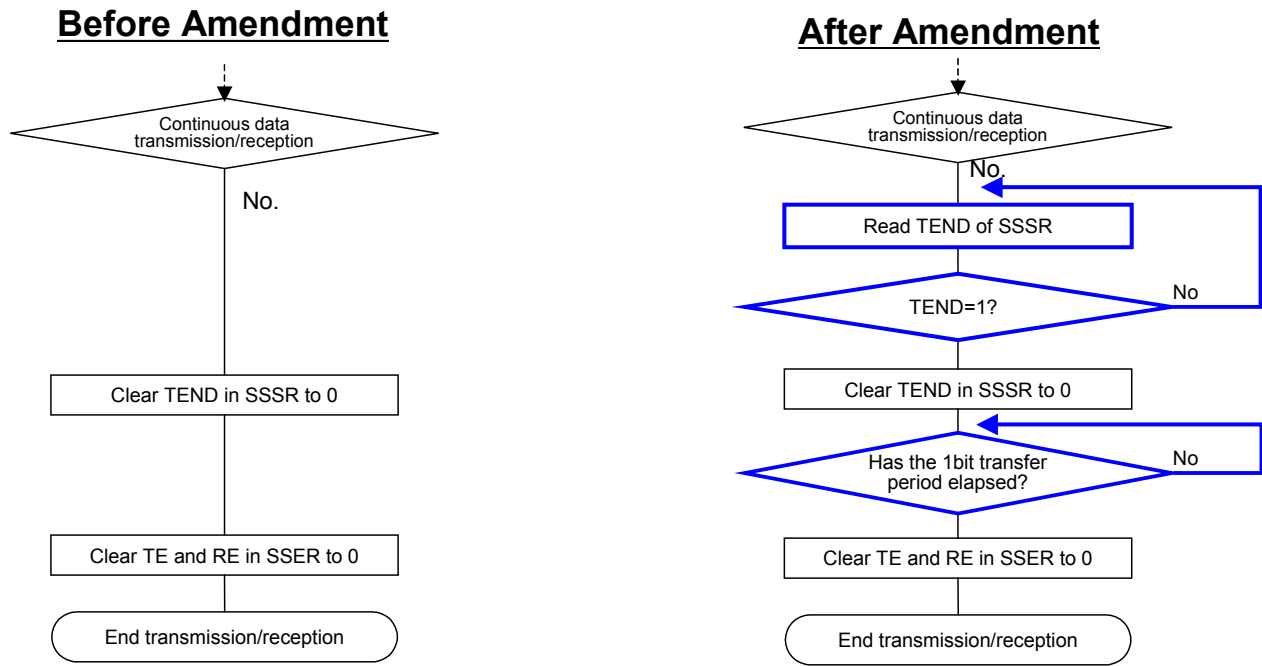

Figure 14.9, Figure 14.17 Example of Simultaneous Transmission/Reception Flowchart
(1) Precaution on switching from transmission/reception operation to reception operation
P.14-29: "Figure 14.9 Flowchart Example of Simultaneous Transmission/Reception (SSU Mode)"